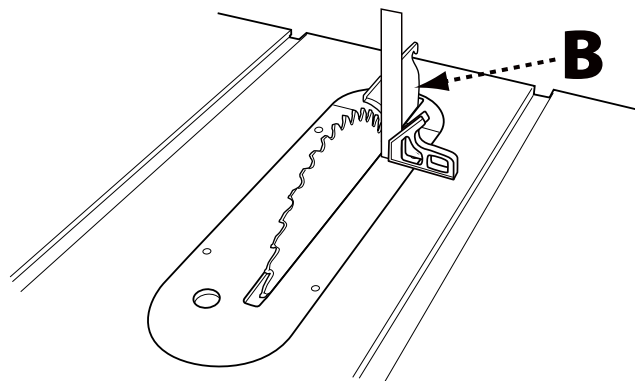

FIGURE 20b
3. Using a carpenter's square, check the angle of the blade face to the table, as shown in Figure 20b, page 20. If the blade is at 90° to the table, proceed to Step 6.
4. If the blade is not perpendicular to the table, turn handwheel to slightly tilt the blade away from the stop position then adjust the 90° stop by rotating the socket set screw located in the table top immediately in front of the left side of throat plate (A). Re-check angle using the carpenter's square and continue to adjust until the blade is at 90 degrees when returned to the stop position.
5. Rotate the blade tilt wheel counterclockwise until it rests on the 45° stop. Then repeat Steps 4 and 5, adjusting the 45° stop by rotating the socket set screw located in front of the right side of the throat plate. (B)
1. **Vertical Alignment:** Place a carpenter's square on the table and against the blade face and make sure it extends up along the riving knife (B) as shown in figure 20b. The riving knife and blade should touch the carpenter's square with no gaps. Be sure the straight edge goes between the teeth and rests on the blade face and the riving knife for proper alignment.